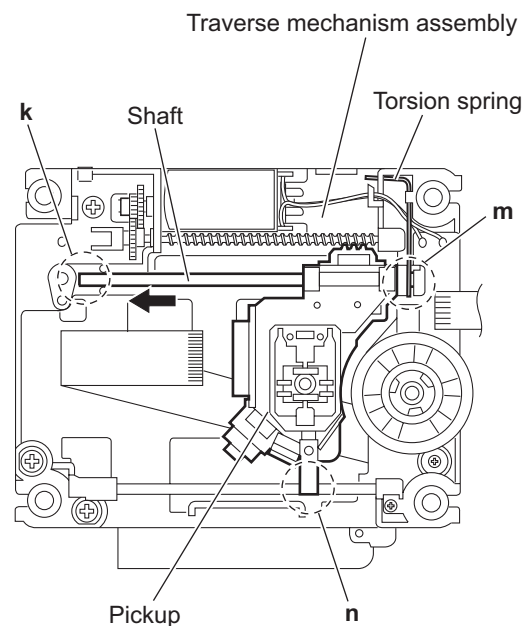

Fig.7
- Remove the shaft of the pickup from the section **k** on the traverse mechanism assembly and remove the shaft from the section **m** while moving it in the direction of the arrow. (See Fig.7.)
- Remove the pickup from the section **n** of the traverse mechanism assembly and take out the pickup with the shaft. (See fig.7.)
- (2) Align the pickup to the section **n** of the traverse mechanism assembly first and set the both ends of the shaft of the pick-up in the sections (**k**, **m**) of the traverse mechanism assembly. (See Fig.7.)
When attaching the shaft to the section **m**, attach it under the torsion spring. (See Fig.7.)